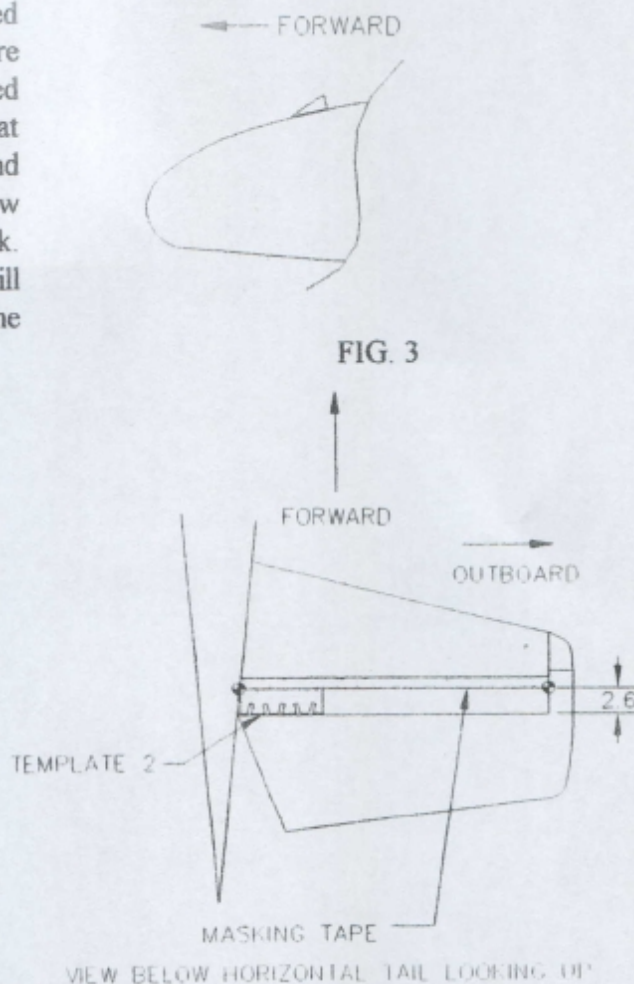

FIG. 4
3.2 The method of determining the location of the vortex generators on the bottom of the horizontal stabilizer is very similar to that used on the wing. Measure 2.6" forward of the trailing edge of the horizontal stabilizer. If there is a rivet line near the trailing edge of the horizontal stabilizer measure 2.6" ahead of the rivet line, this will ensure that the vortex generators will not interfere with the rivets. Mark that location at the root and at the beginning of the tip of the horizontal stabilizer with a felt tip pen. Apply masking tape from the horizontal stabilizer root to the beginning of the tip in a straight line with the downstream edge of the masking tape adjacent to the marked positions. This masking tape will be used as a straight edge guide. See figure 4.
- 3.5 Tape the template adjacent to the masking tape and at the horizontal stabilizer root as shown in figure 4. Stick the vortex generators to the horizontal stabilizer by removing the protective liner and placing the vortex generators in the five template notches making sure that the vortex generators are correctly facing forward as shown in figure 3. Move the template over so that the first template notch lines up with the last vortex generator attached to the horizontal stabilizer. Attach four more vortex generators to the horizontal stabilizer. Continue repeating this operation until all the vortex generators are placed on the horizontal stabilizer. Then repeat this procedure for the other horizontal stabilizer panel. Remove the masking tape when completed.